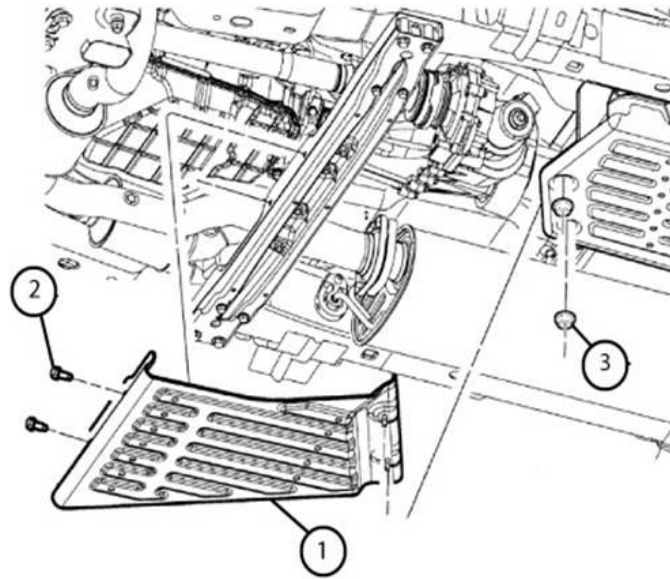

Fig. 12 Transfer Case Skid Plate
2. Position and install the transfer case skid plate. torque the bolts to 35 ft.-lbs (47Nm) (2) and the nuts to 35 ft.-lbs. (47Nm) (3) (Fig. 12).